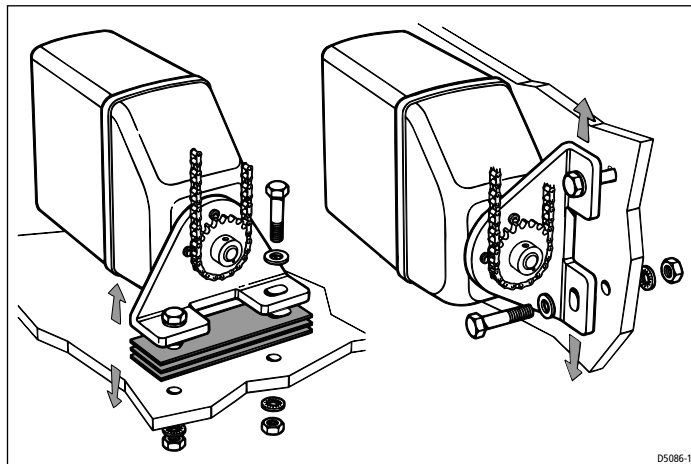

Figure 7: Adjusting chain tension
- If necessary, you can rotate the mounting foot through 90 degrees to provide a more convenient mounting position (as shown in *Figure 7*). To do this: remove the four screws securing the mounting foot to the drive unit, rotate the mounting foot, then replace the screws.
- Drives mounted horizontally: place as many of the supplied shims as necessary under the mounting foot (see *Figure 7*).
- Drives mounted vertically: use the slots in the mounting foot to move the drive up or down (see *Figure 7*).